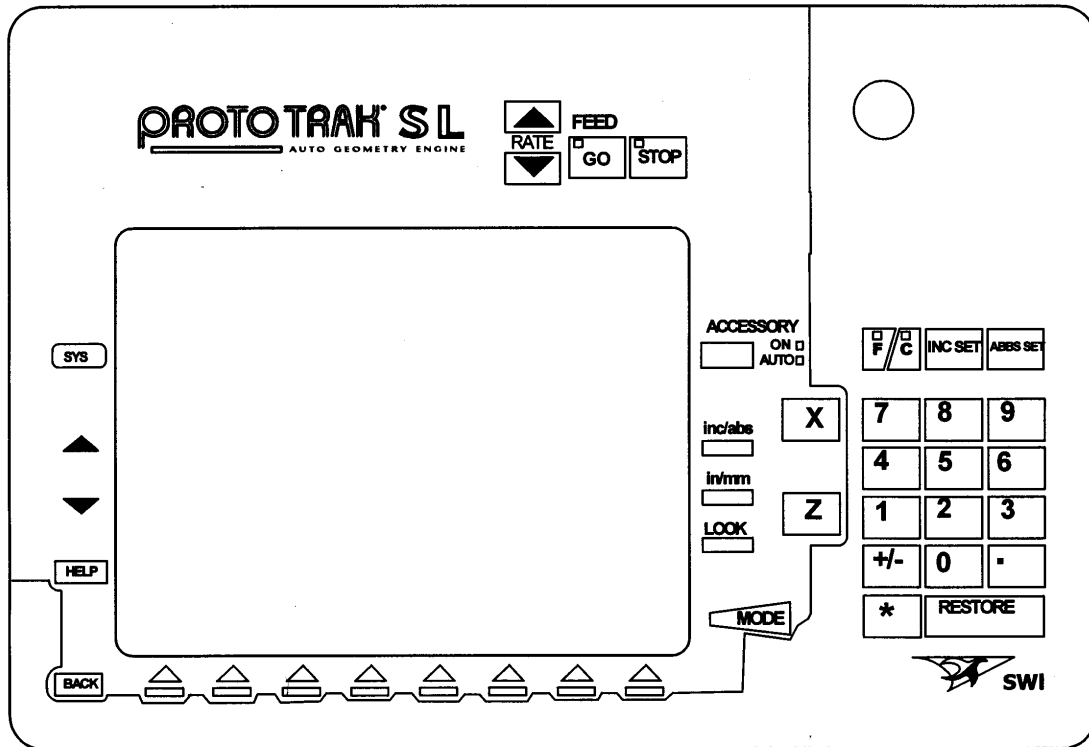

FIGURE 3.1 The ProtoTRAK SL front panel and hard keys
3.1 Display Pendant Front (see Figure 3.1)